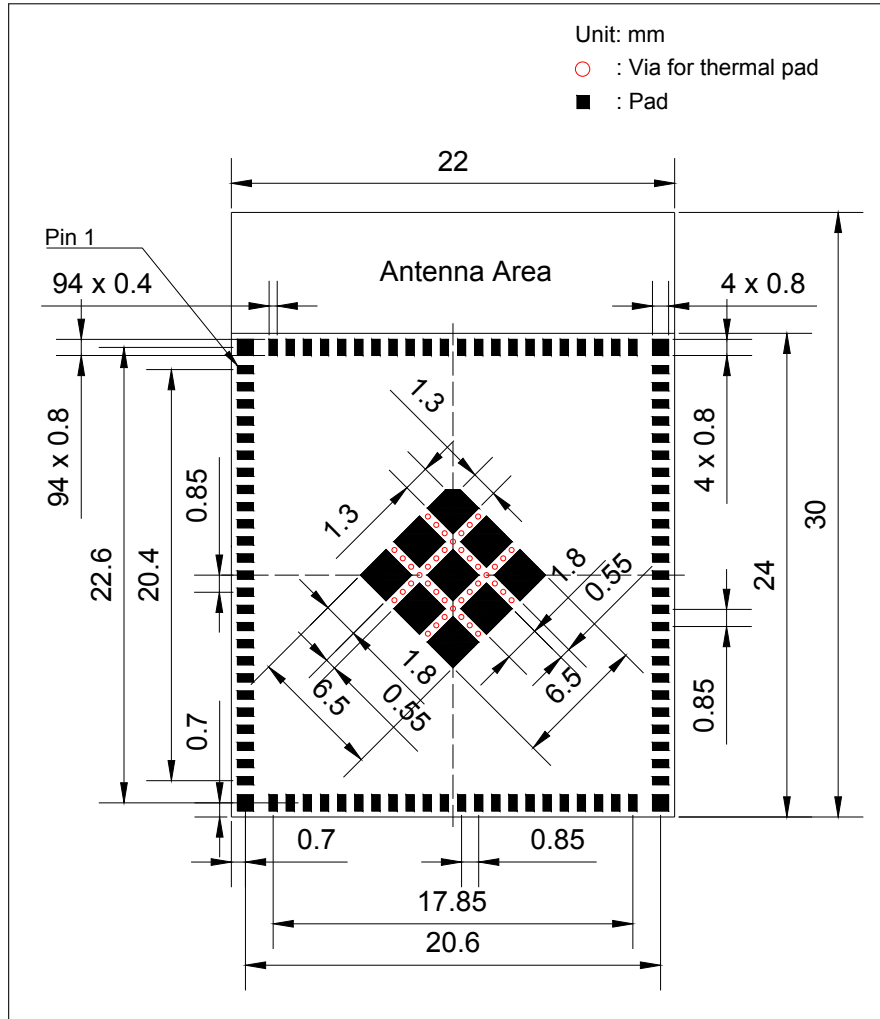

Figure 11-1. Recommended PCB Land Pattern
- Figures for recommended PCB land patterns with all the dimensions needed for PCB design. See Figure 11-1 *Recommended PCB Land Pattern*.